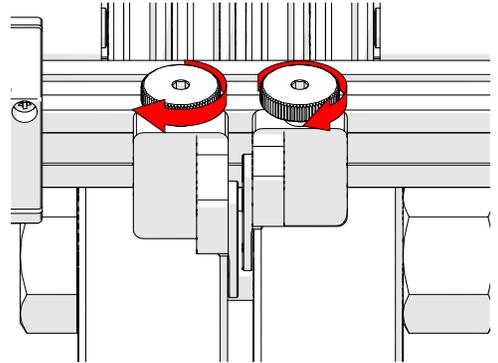

Fig. 27 - Tighten knobs
4. Tighten the knobs of the guides (Fig. 27).